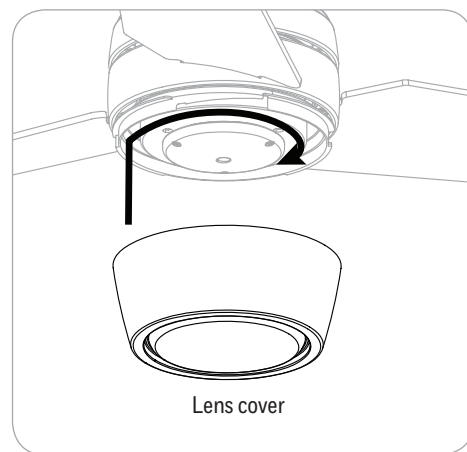

Figure 5.6
6. Attach the lens cover to the light kit by twisting the lens cover tightly in a clockwise direction (Figure 5.6).